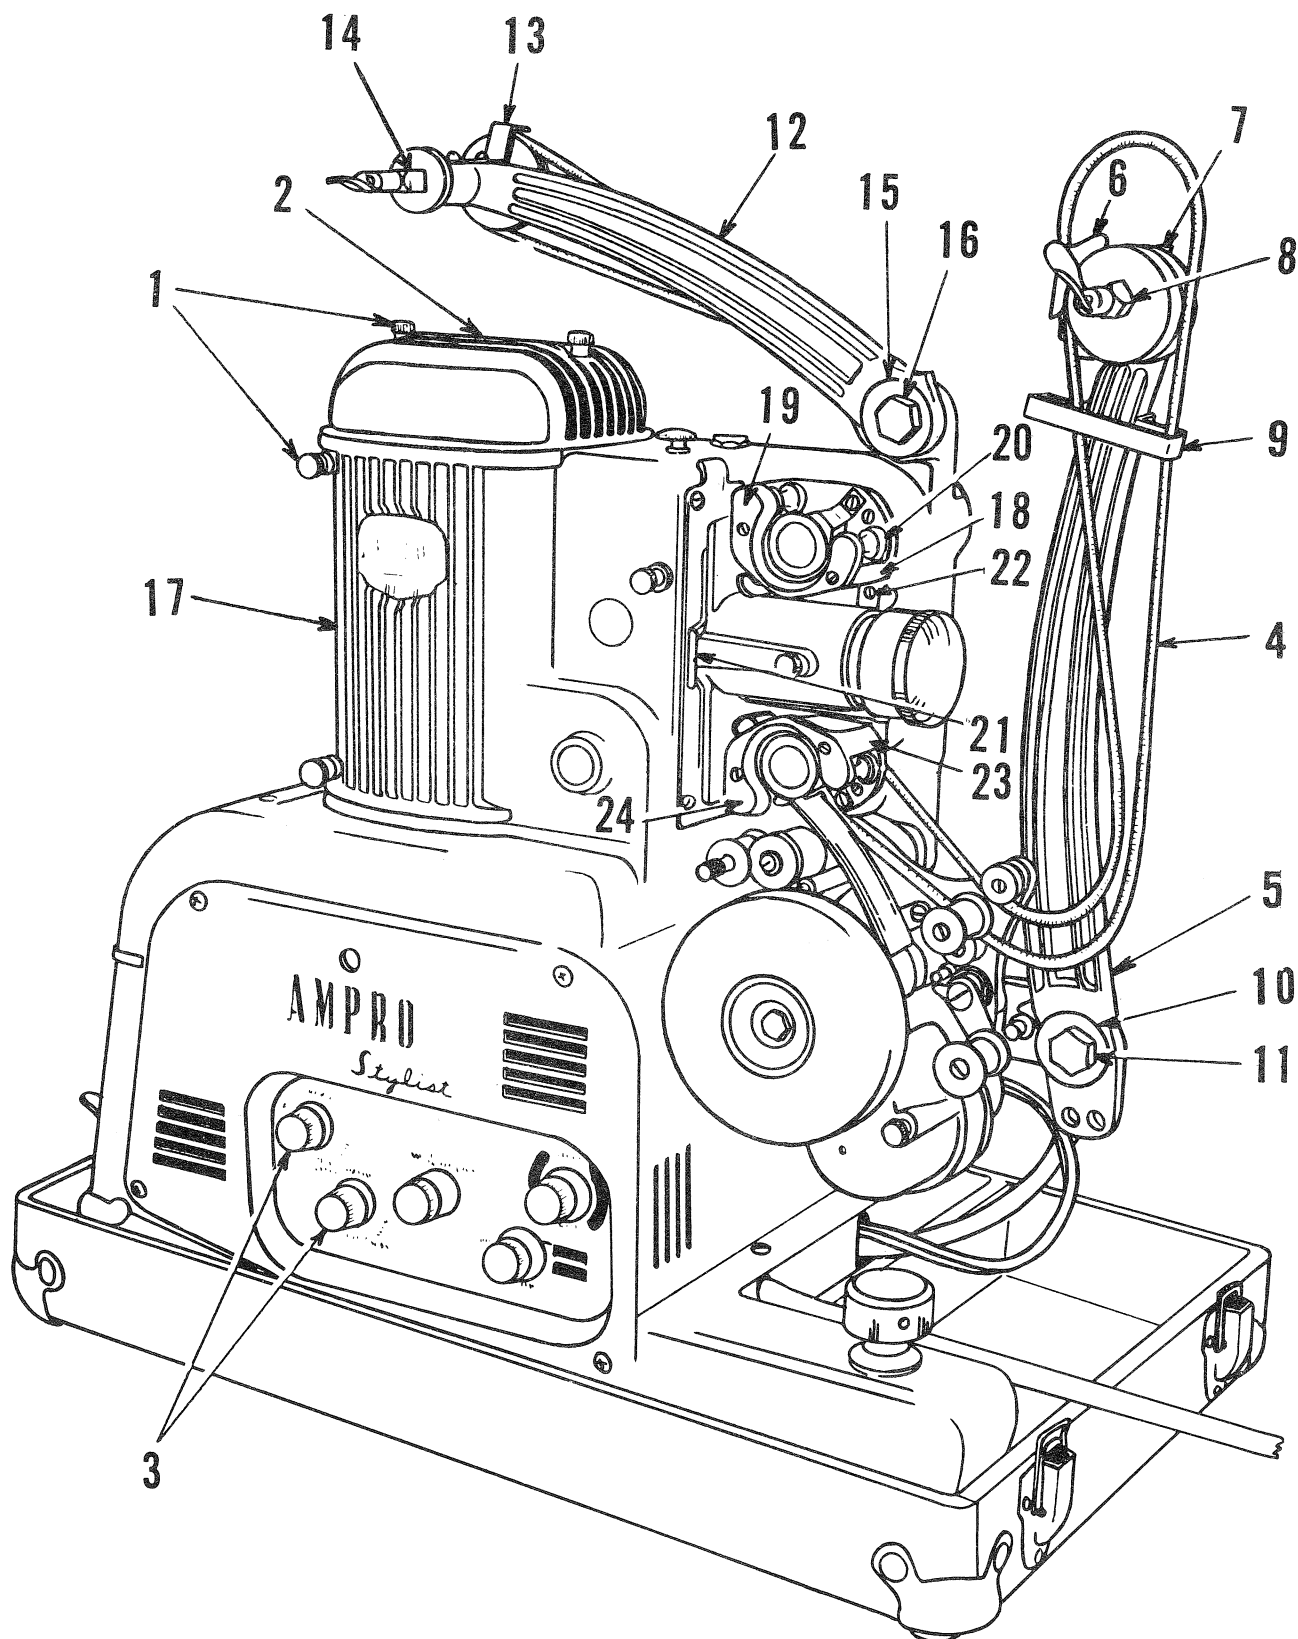

Figure 1. PROJECTOR (Right Side)
1. Feed Reel Arm Assembly (See Figure 1)
2. Take-Up Reel Arm Assembly (See Figure 1)